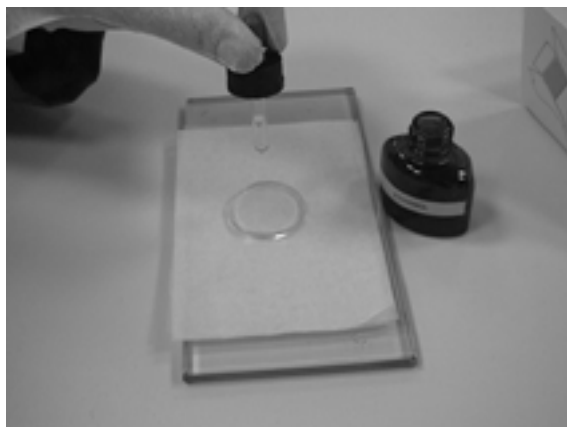

Figure 57: Window cleaning (1)
6. Put a few drops of ethanol onto the lens tissue close to one edge of the window (Figure 57).